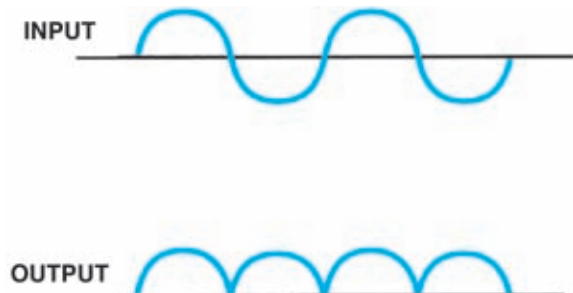

Figure 10-17. AC to DC rectification. (GM Service and Parts Operations)
The most common use of a rectifier in today's automotive systems is in the AC generator. The AC generator produces alternating current (AC). Because automotive electrical systems use direct current, the generator must somehow convert the AC to DC. The DC is provided at the alternator's output terminal. Figure 10-17 shows how a diode rectifier works inside a generator.